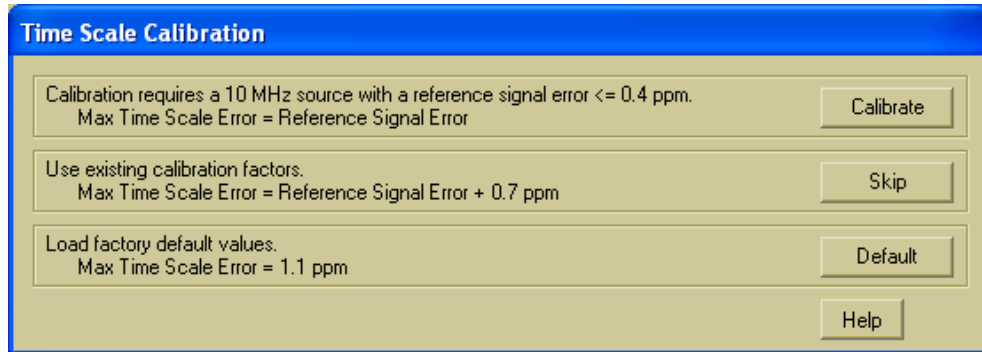

Figure 16 Time Scale Calibration Dialog box
- e Early during the calibration of channel 1, if you are prompted to perform a Time Scale Calibration, as shown in Figure 16 below.